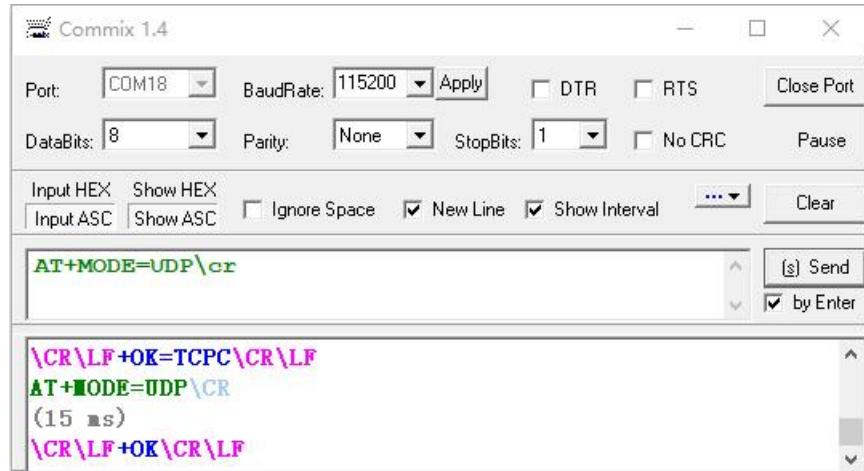

Figure 6-6 AT Command Setting UDP Mode
- 1) Set the module to UDP mode with the destination port set to 60000. Both AT commands and web pages are available Take AT command setting as an example, as shown in Figure 6-6. For specific AT command mode entry operation, please refer to AT. Instruction set portion
- 2) As shown in Figure 6-6, the receipt of "+ OK" indicates that the module has completed setting the UDP mode. Then exit the at command module. The program automatically returns to passthrough mode.